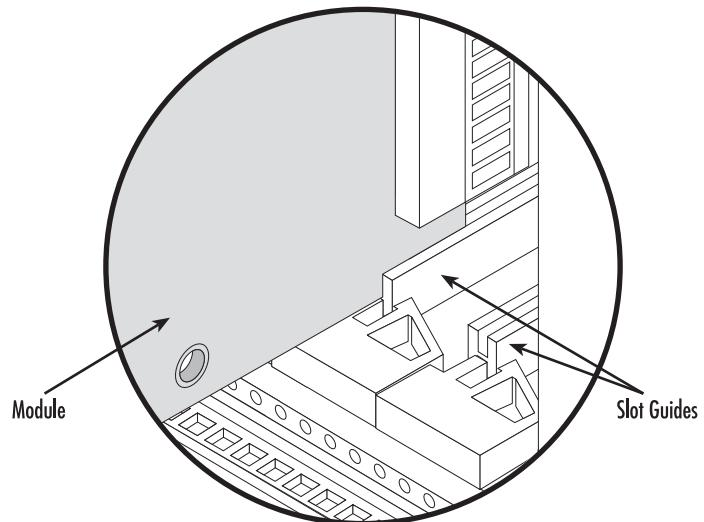

Figure 8. Inserting module into rack slot guides
5. Locate the slot where the 3125TM will be installed. Insert the 3125TM so it enters the corresponding top and bottom slot guides as shown in figure 8.
4. Locate the slot where the 3125RC will be installed. Insert the 3125RC so it enters the corresponding top and bottom slot guides as shown in figure 8 on page 28.